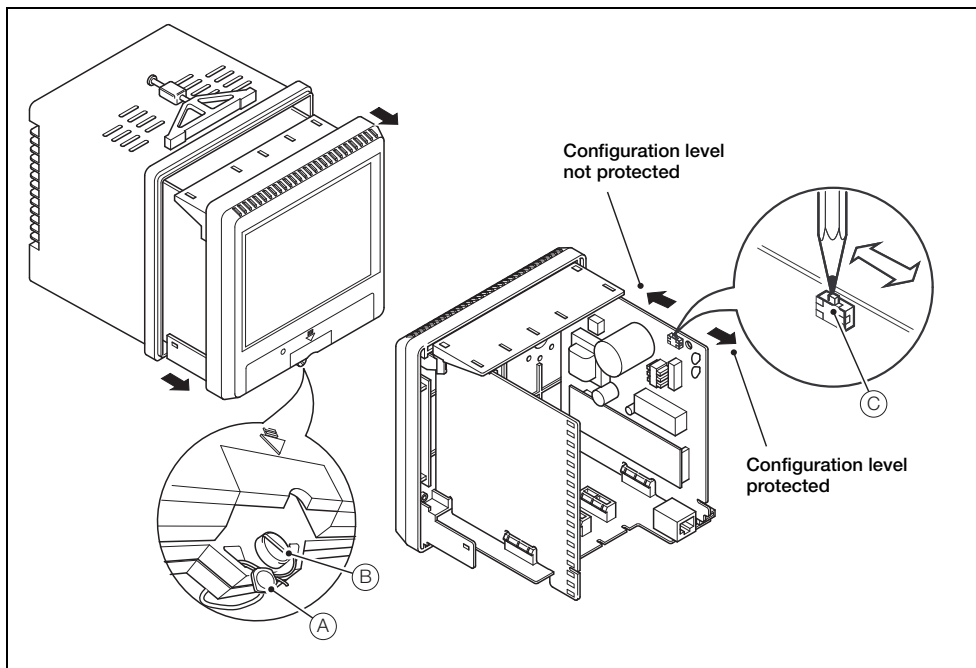

Fig. 7.3 Setting the security switch
The **Configuration** level cannot be accessed until the internal switch set to the 'Configuration level not protected' position – see Fig. 7.3, page 62.
1. Set the internal security switch to the 'Configuration level not protected' position – see Fig. 7.3, page 62.
Referring to Fig. 7.3, set the internal security switch as follows: